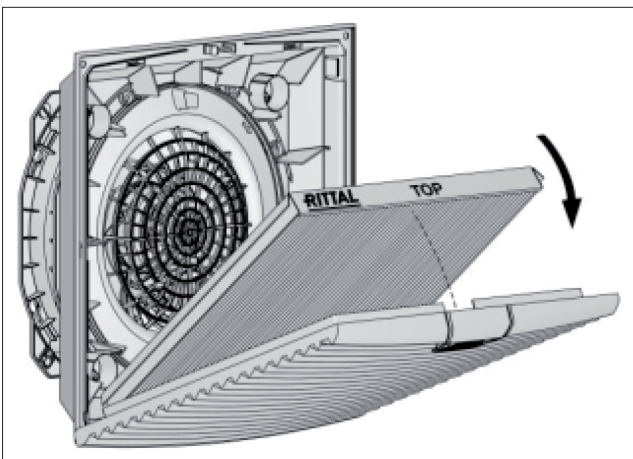

Fig. 7: Installing the IP54 pleated filter
- Place the pleated filter in the louvred grille. The "Top" logo indicates the insertion direction (see fig. 7)